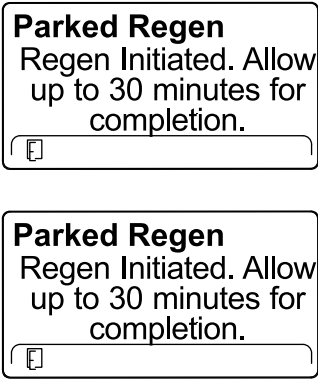

Figure 66
6. The InfoCenter displays the time to complete message (Figure 66).